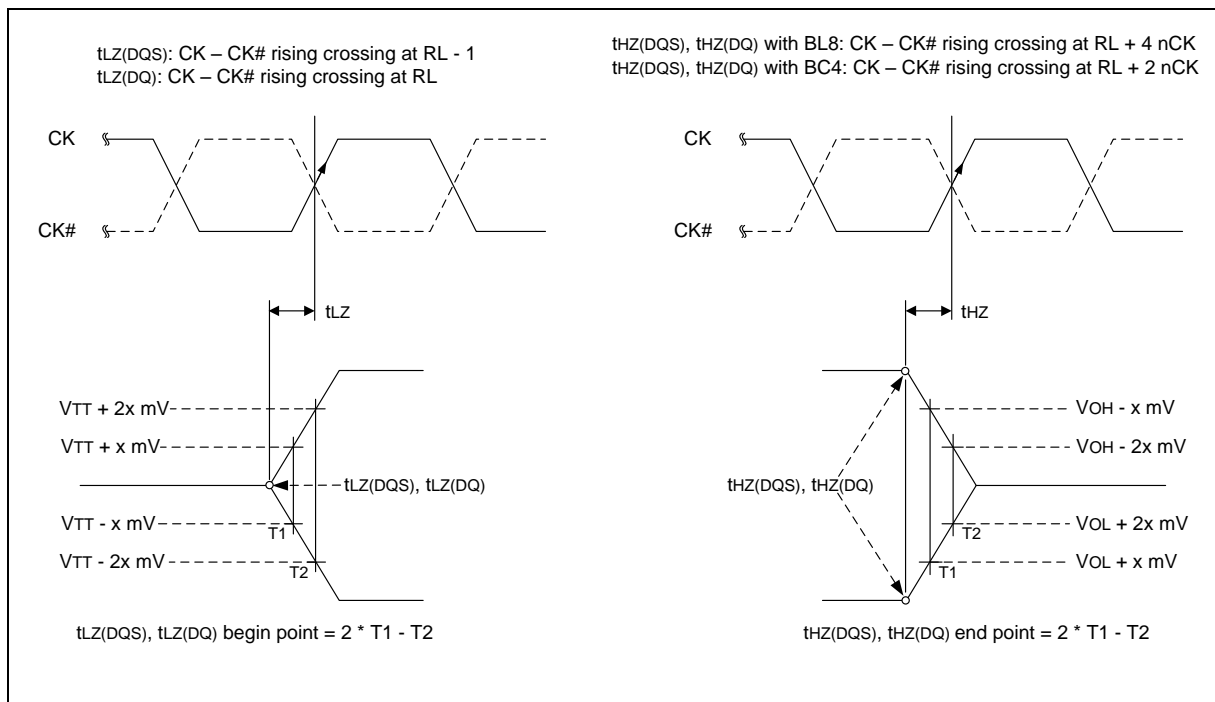

Figure 26 – tLZ and tHZ method for calculating transitions and endpoints
$t_{LZ}(DQS)$ ,  $t_{HZ}(DQS)$  for preamble/postamble (see section 8.13.2.3 and Figure 26).
tHZ and tLZ transitions occur in the same time window as valid data transitions. These parameters are referenced to a specific voltage level that specifies when the device output is no longer driving tHZ(DQS) and tHZ(DQ), or begins driving tLZ(DQS), tLZ(DQ). Figure 26 shows a method to calculate the point when the device is no longer driving tHZ(DQS) and tHZ(DQ), or begins driving tLZ(DQS), tLZ(DQ), by measuring the signal at two different voltages. The actual voltage measurement points are not critical as long as the calculation is consistent. The parameters tLZ(DQS), tLZ(DQ), tHZ(DQS), and tHZ(DQ) are defined as singled ended.